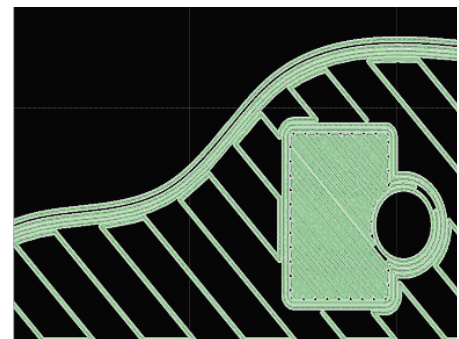

Figure 4: Air Gap Problem 2
STEP 3: If a different orientation will not solve the air gap problem, another method is to create custom groups for the slice layers with the air gap (figure 4). The part in figure 4 has been processed with default sparse parameters. A custom group